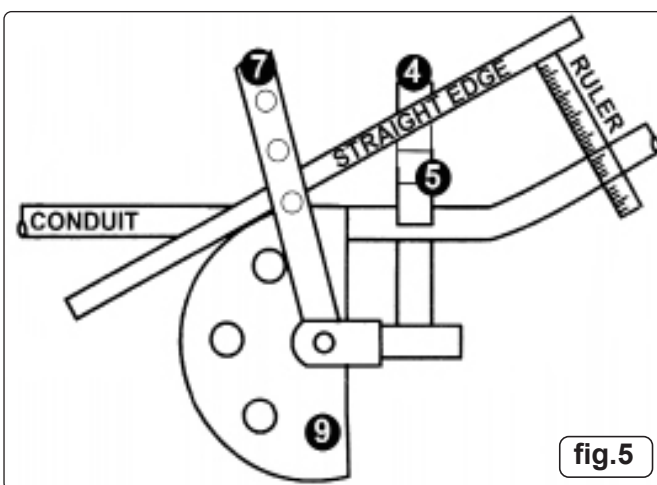

fig.5
5.5.2. Place the bend in the machine as shown in fig.5. Place a straight edge against the outer edge of the former (9) and parallel to the bend. Adjust the conduit in the machine until the required measurement is obtained.